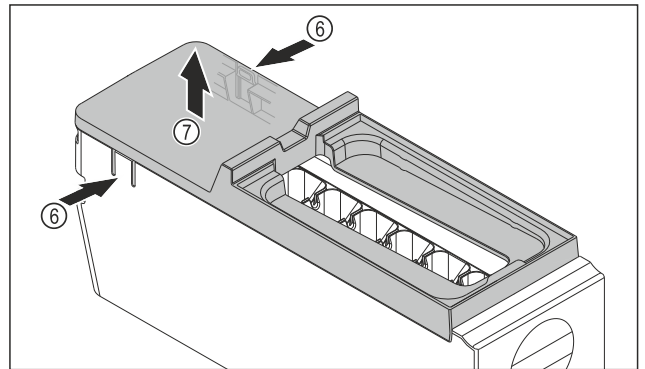

Fig. 121
- ▶ Removing the EasyTwist-Ice body cover: Push the tabs Fig. 121 (6) on both sides of the EasyTwist-Ice body with one hand.
- ▶ Use the other hand to remove the cover Fig. 121 (7) upwards.